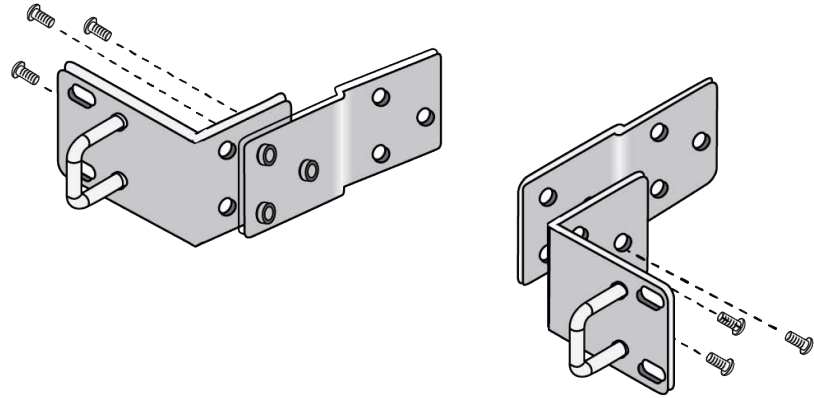

Figure 40. Attaching the Extenders to the RKMT-J13 Brackets
4. If you want to recess the front of the switch in the equipment rack 50mm (2 in.), attach the extenders to the brackets with six of the 4x8mm screws included in the kit. Refer to Figure 40 on page 88.